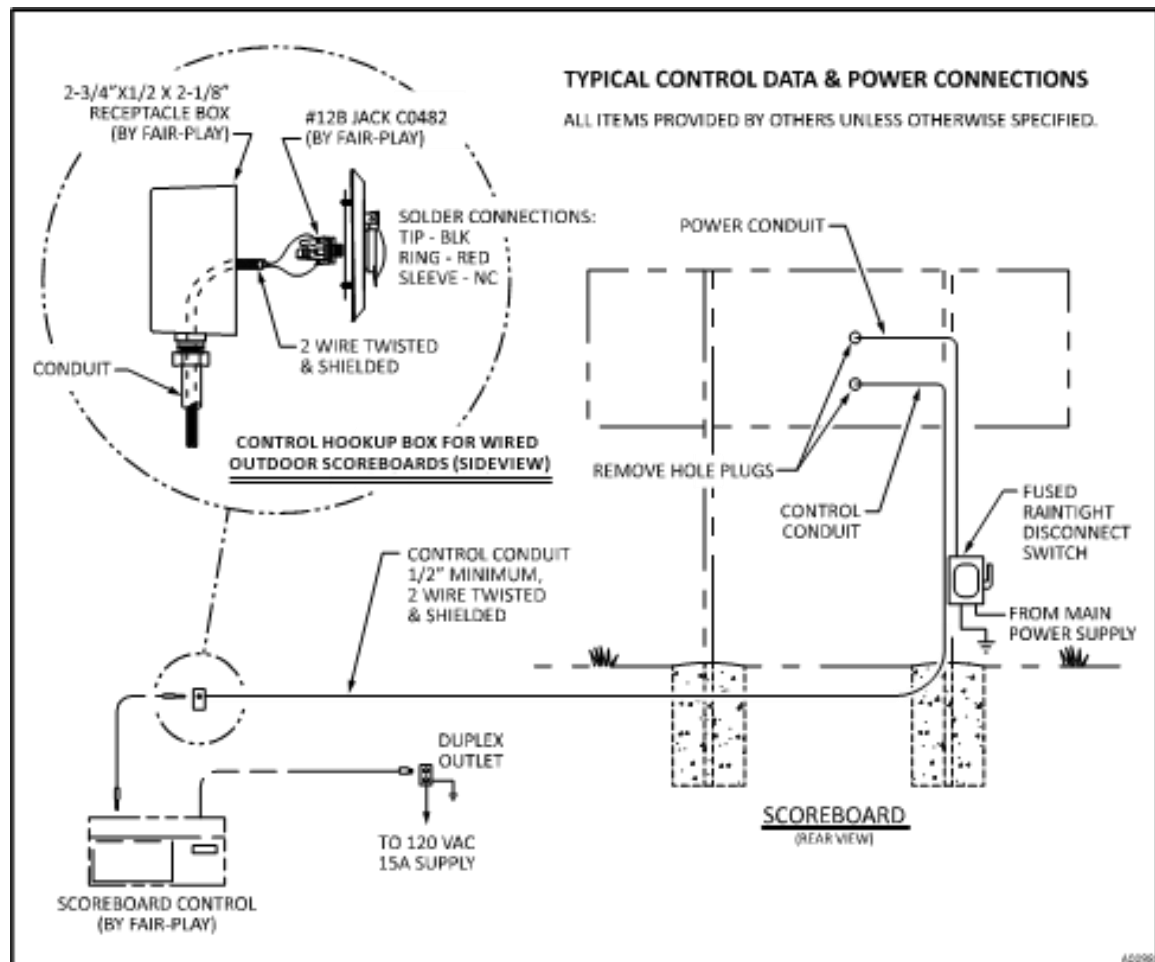

FIGURE 8 — CONTROL DATA & POWER CONDUIT ROUTING
- Refer to Figure 8 — Control Data & Power Conduit Routing below.
A fused disconnect (provided by others) must be installed. The location of the disconnect switch after installation shall comply with Article 600 of the National Electrical Code. Refer to Figure 8 on page 7.